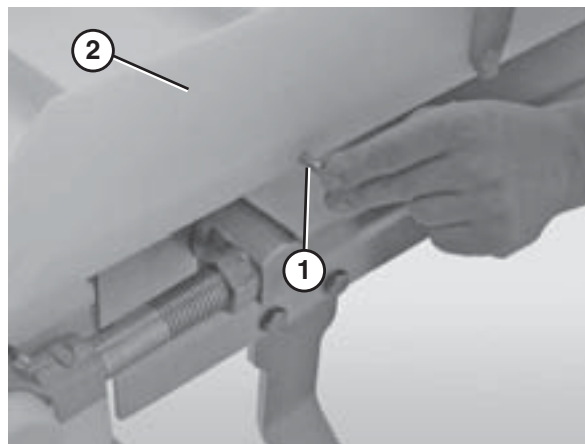

Figure 36
3. Insert the pull pins (Figure 36, item 1) into the holes in the guide (Figure 36, item 2).